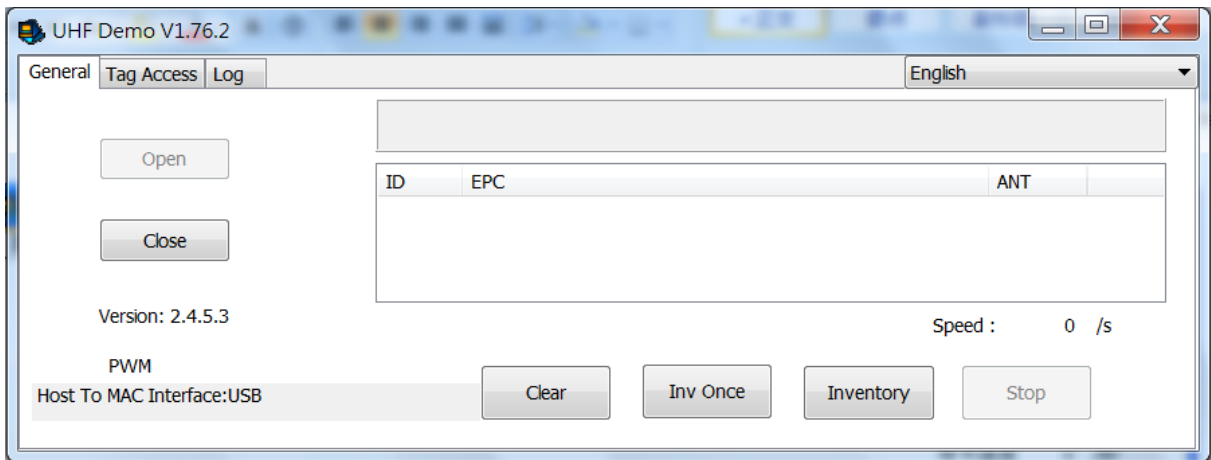

图2.7
6. Click “Open” button, open the card for card function; After the open success, the system will automatically obtain the card device firmware version number, he lower left corner will be prompted to “Host To MAC Interface: ...”(when for “USB Interface communication”, indicates that “Host To MAC Interface: USB”; As for “UART serial interface communication mode”, suggests “Host To MAC Interface: UART”; And click “TO UART”/“TO USB” button can switch card, communication methods, and then click “Open” button); As shown in figure 2.7: